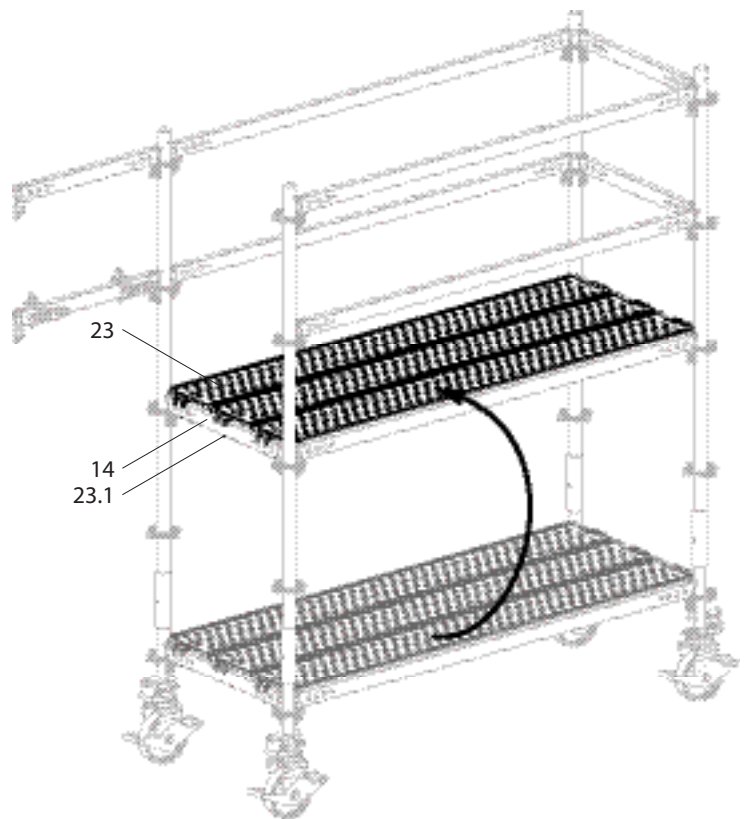

Fig. A4.05
1. Move the Steel Decks UDG-2 (23) to platform height. Lift locks (23.1) must engage beneath the horizontal ledgers (14). (Fig. A4.05)